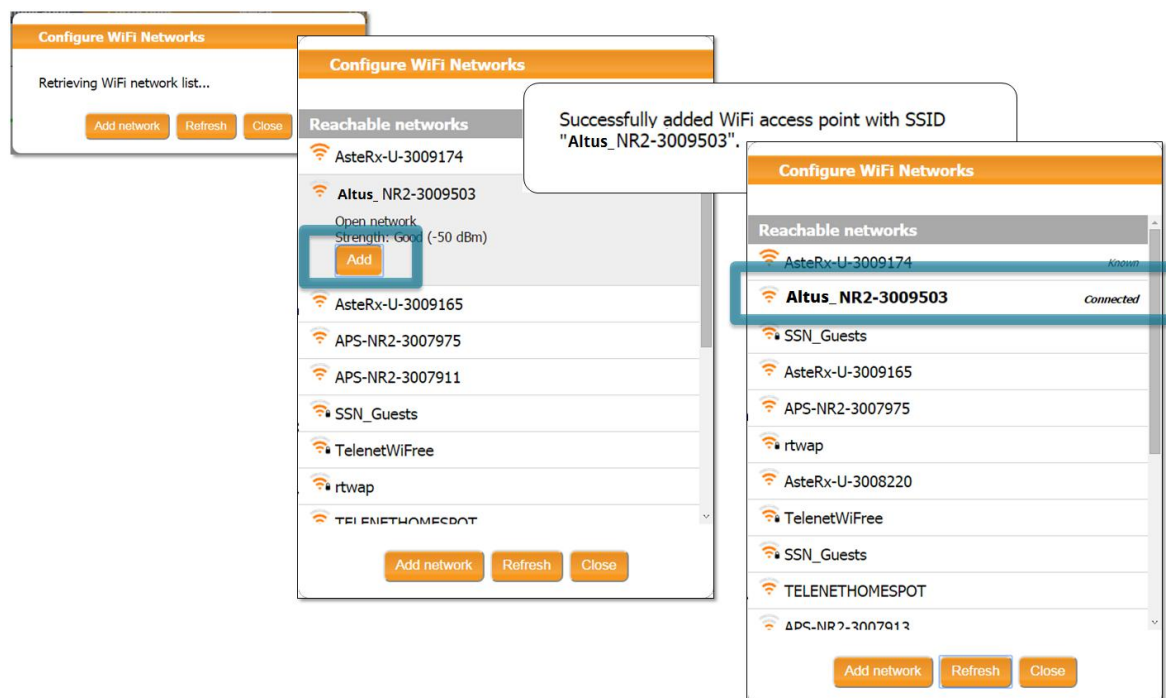

Figure 4-14: Select the base station device from the list of reachable networks
- From the list of networks, select to connect to the base station receiver by clicking 'Add' as shown in Figure 4-14.